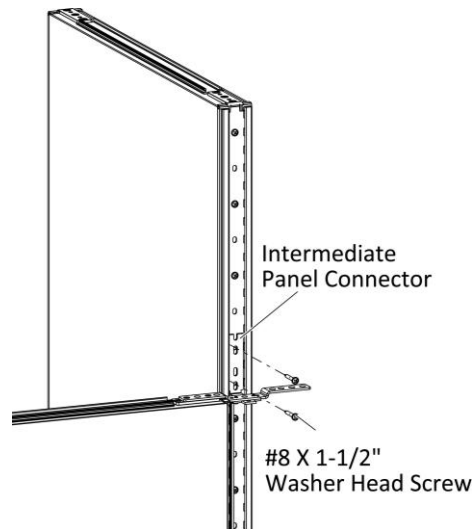

Figure 4
7. Drive two #8 X 1-1/2" Washer Head Screws through the holes in the intermediate panel connector into the taller panel, (Figure 4).